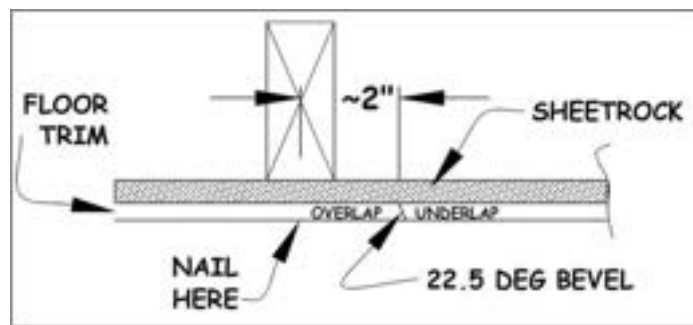

Figure 19-4. Overlapping Trim Splice.
- When a splice is required, cut two trim pieces with matching 22.5° bevel angles. Cut the overlapping piece with the face side longer and the underlapping piece with the unfinished side longer. Plan these two pieces so the overlap is angled away from the main viewing area of the room. The overlapping piece should end about 2" past a stud so the splice can be securely nailed to the stud (see Figure 19-4). Nail the underlapping piece first along its entire length into each stud. Glue the ends of the splices, place the overlapping trim piece in position, and nail it directly into the stud. The overlapping piece should hold the underlapping in position snugly. Clean any glue residue from the splice before it dries.